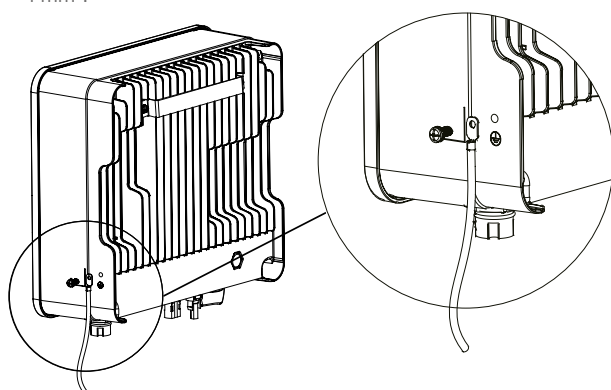

Fig. 36. Earthing terminal connection.
2. Fasten the earthing connection terminal to the PE cable with a suitable tool and lock the earthing connection terminal to the earthing connection hole on the bottom right side of the inverter, as shown in Fig. 36.